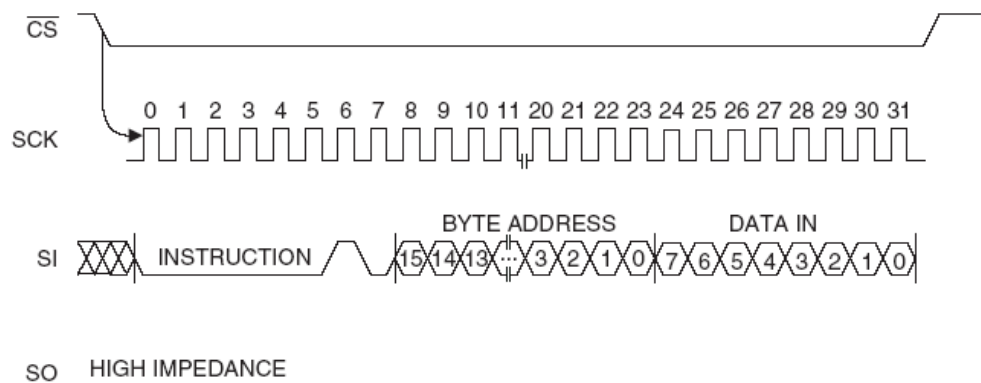

Figure 5: Byte Write Cycle Timing Chart
The device must be Write Enabled via the WREN instruction before executing a Write instruction. First, the Chip Select ($\overline{\text{CS}}$) signal is driven low. Then the instruction and address bits, address byte and at least one data byte shift in on the Serial Data Input (SI) pin. The instruction is terminated by driving the $\overline{\text{CS}}$ signal high at a byte boundary of the input data. If this occurs after the eighth bit of the data byte has been latched in, the instruction is being used to Write a single byte. See Figures 5 and 6.